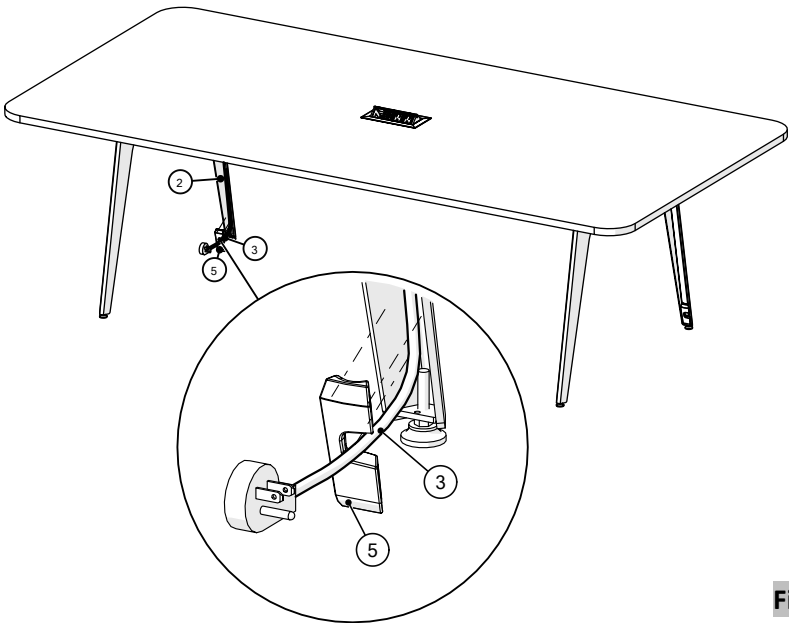

Figure 3
- 3. Attach the plastic cover with magnets to V-leg, (Figure 3).